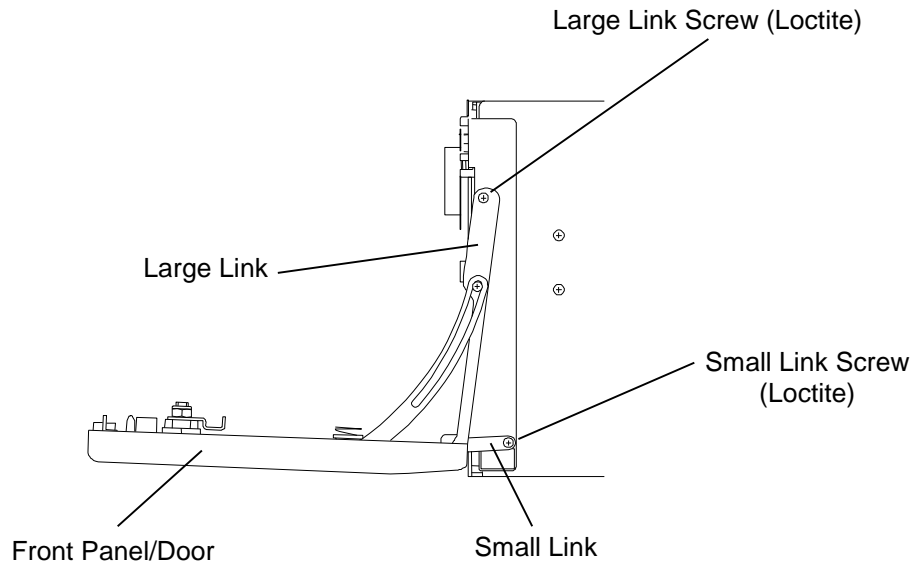

Figure 7-18 Front Panel/Door Linkage
4. Using a No. 1 Phillips screwdriver, remove the rear screw from the small link on both sides. See Figure 7-18. These screws were installed with Loctite 242 and will require more torque than normal to remove them.
5. While supporting the Front Panel/Door assembly with one hand, use a No. 1 Phillips screwdriver to remove the upper screw from the large link on both sides. See Figure 7-18. These screws were installed with Loctite 242 and will require more torque than normal to remove them.
1. While supporting the Front Panel/Door assembly with one hand, slide the large link over the threaded standoff and using a No. 1 Phillips screwdriver, install a 4-40 x 3/16" pan-head screw with Loctite. See Figure 7-18. Repeat for the other side.
2. Slide the small link over its threaded standoff and using a No. 1 Phillips screwdriver, install a 4-40 x 3/16" pan-head screws with Loctite. See Figure 7-18. Repeat for the other side.